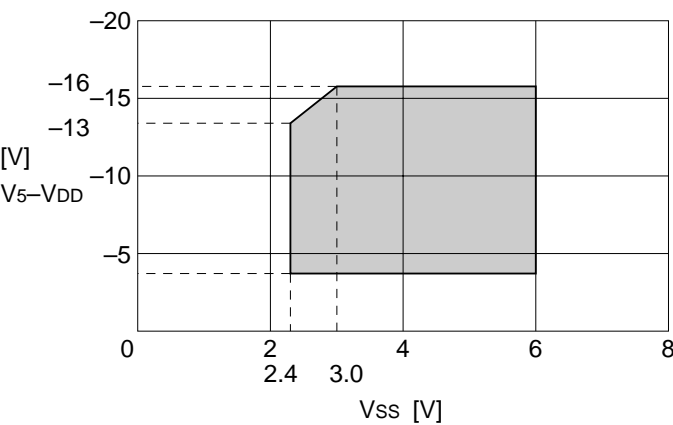

Figure 11
- \*2. The operating voltage range of the VSS and V5 systems (see Figure 11).